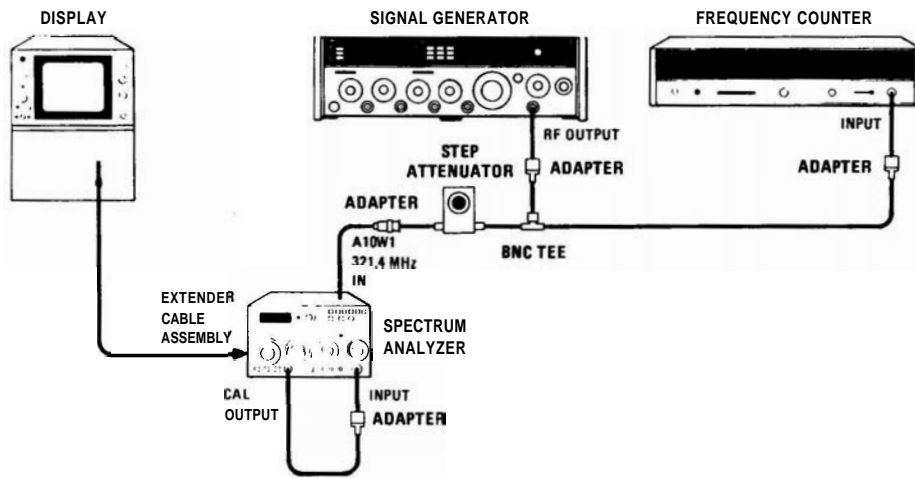

FIGURE 5-8. 3-dB BANDWIDTH ADJUSTMENT TEST SETUP
2. Connect equipment as shown in Figure 5-8 except for signal input to A10W1. Connect CAL OUTPUT to spectrum analyzer INPUT 50Ω.
9. Connect signal generator through the BNC Tee connector to the step attenuator and to the frequency counter as shown in Figure 5-8. Set the signal generator to approximately 0 dBm and the step attenuator to 30 dB.